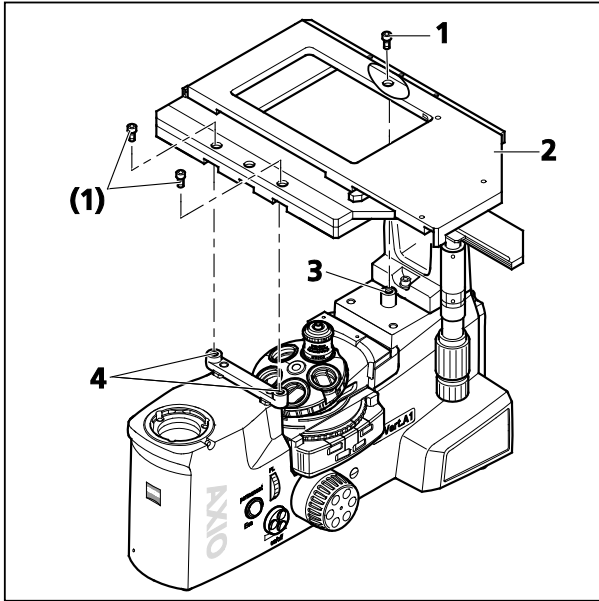

Fig. 3-6 Mounting the Mechanical Stage (Shown without Tube)
- Put the mechanical stage (Fig. 3-6/2) onto the three locating points (Fig. 3-6/4) of the stand and fasten it with three Allen screws (Fig. 3-6/1) (two at the front, one at the back).